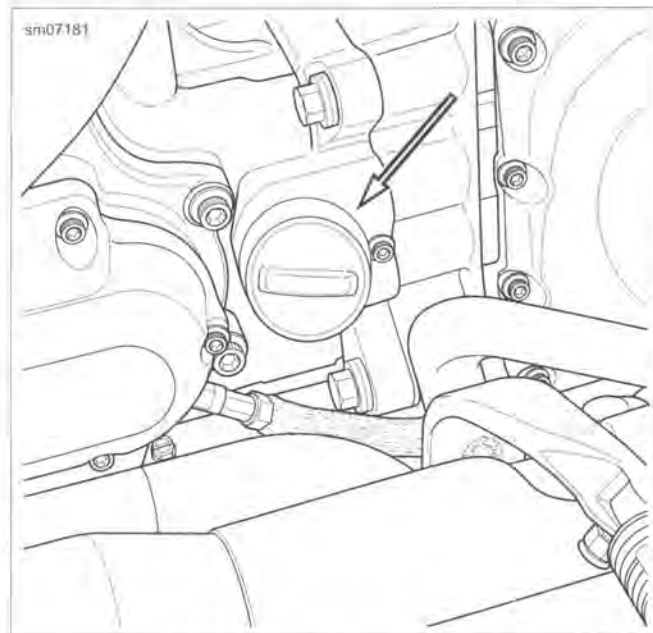

Figure 1-1. Filler Plug/Dipstick
- See Figure 1-1. Remove filler plug/dipstick. Wipe off the dipstick. Insert the dipstick and tighten into the fill spout.